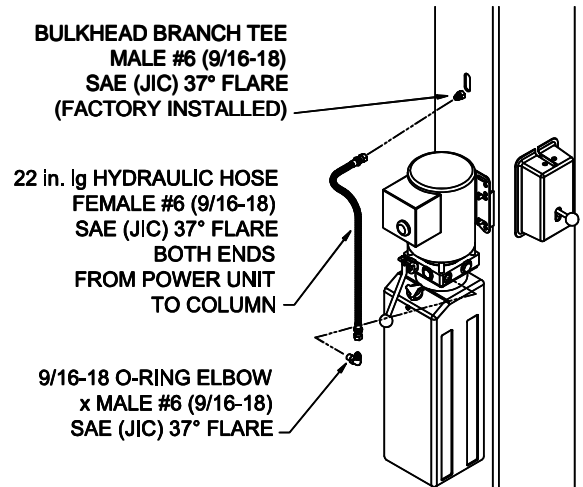

Fig 9 – Hydraulic Hose from Power Unit to Power Column.
- 24) Attach hydraulic elbow fitting (*in hardware box*) threading the 9/16-18 O-ring end to power unit. See **Fig 9**. CAUTION not to damage rubber O-ring.
- 25) Thread power unit hydraulic hose (22" lg *in hardware box*) into elbow on power unit. Thread opposite end of hose into male #6 fitting (*factory installed*) attached to power column as shown in **Fig 9**.